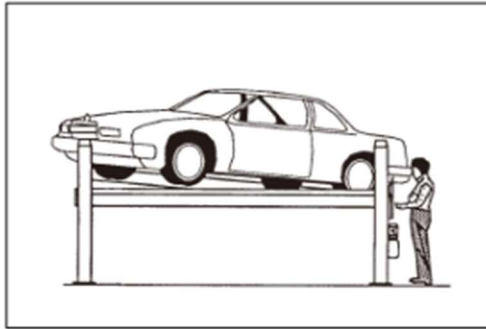

Figure 35 - Improper docking of vehicle
- An improper docking of the vehicle on the lifting platform, improperly parking the vehicle, or an oversized vehicle that does not match the lift specifications can cause the vehicle to fall at risk. (Figure 35)